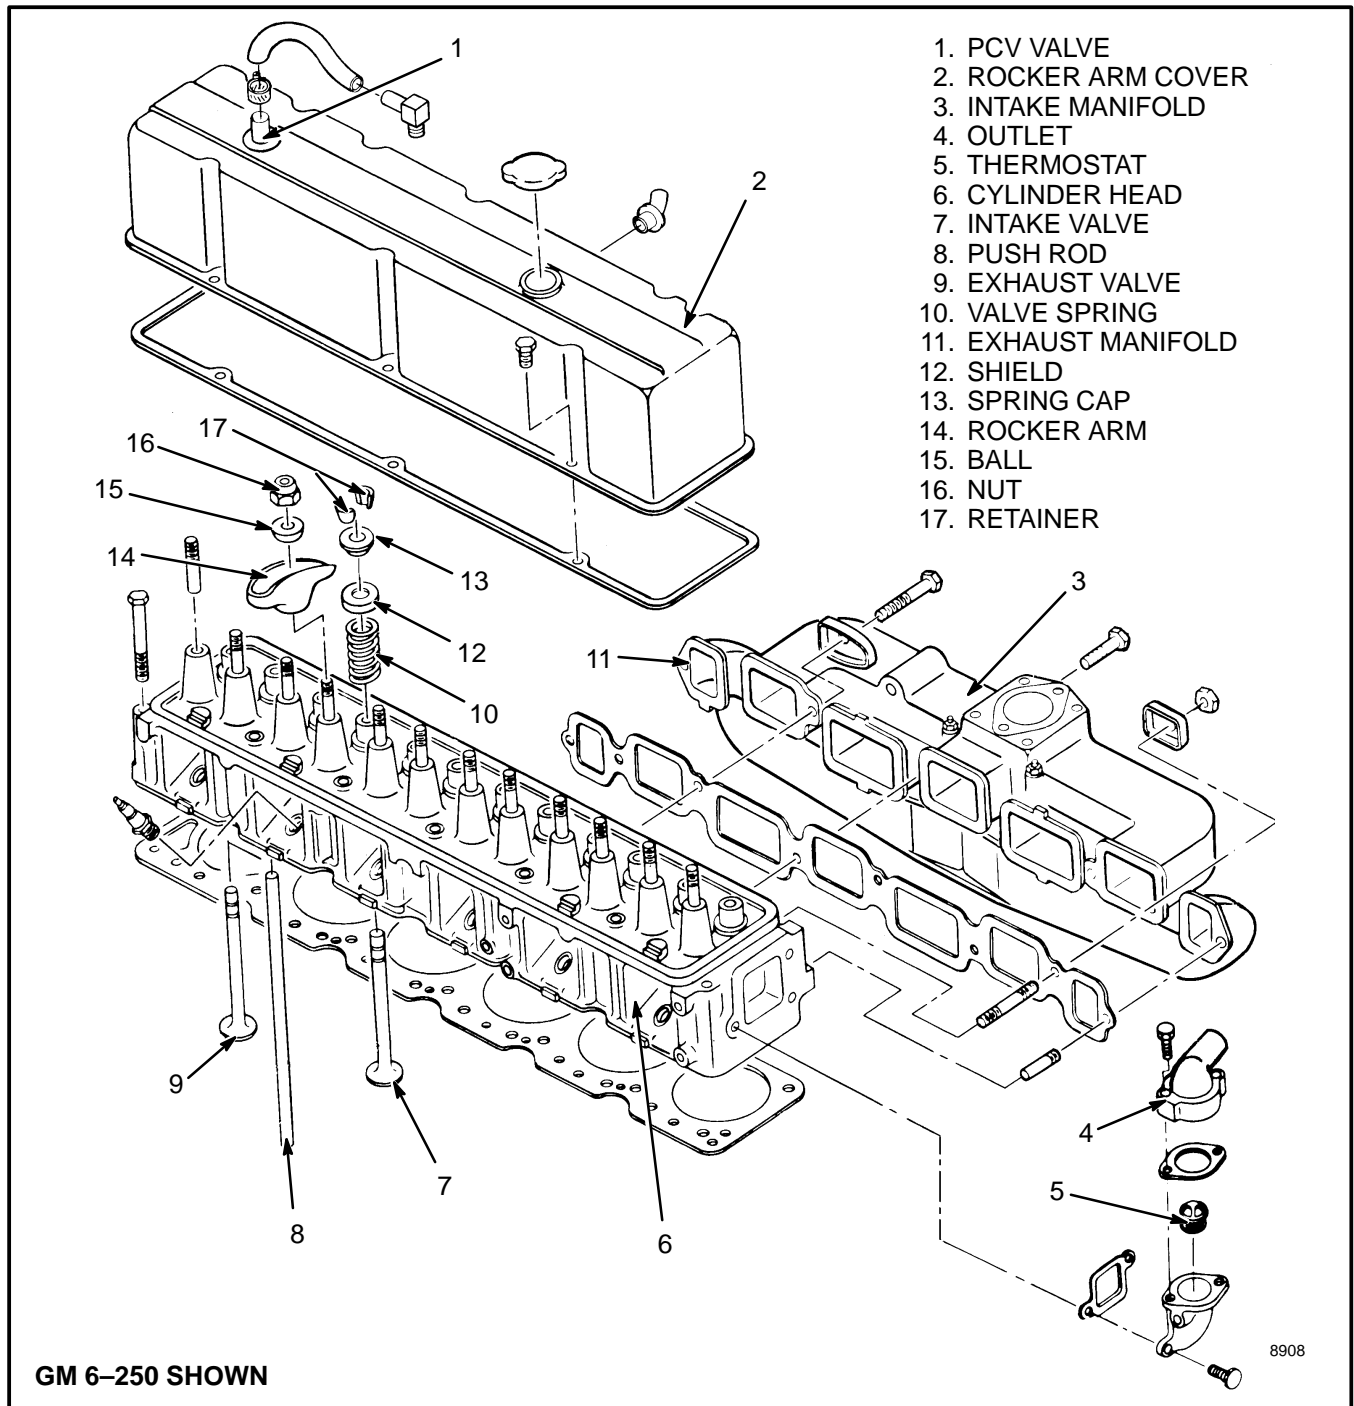

FIGURE 2. CYLINDER HEAD
1. Use a compressor tool to compress the valve springs and remove the retainers. See FIGURE 2. and
### Cylinder Head, Assembly (See FIGURE 2.)